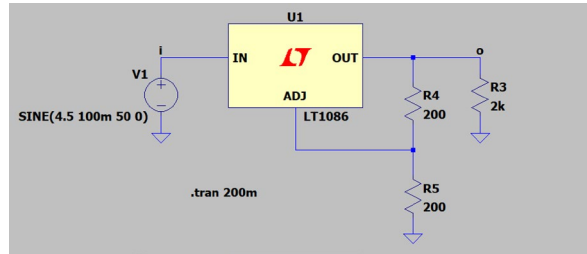

Fig.1c
- For Fig.1c plot the input and output in separate panes and note the peak-peak ripple values, report the DC output voltage and compare with the expected from the datasheet
- For Fig.1c measure and plot the input and output and note the peak-peak ripples, report the DC output voltage and compare with the expected DC value from the datasheet